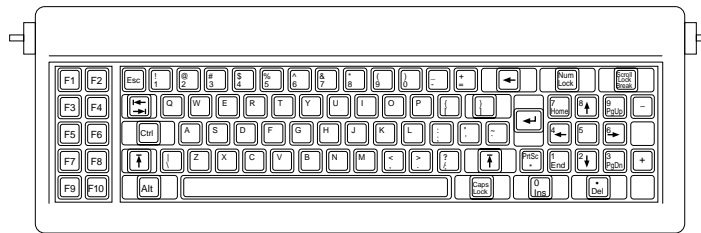

FIG. 9.1 PC and XT 83-key keyboard layout.
**83-Key PC and XT Keyboard.** When the original PC was first introduced, it had something that few other personal computers had at the time: an external detachable keyboard. Most other small personal computers of the time had the keyboard built in, like the Apple II. Although the external design was a good move on IBM's part, the keyboard design was not without its drawbacks. One of the most criticized components of the original 83-key keyboard is the awkward layout (see Figure 9.1). The Shift keys are small and in the wrong place on the left side. The Enter key is also too small. These oversights were especially irritating at the time because IBM had produced the Selectric typewriter, perceived as a standard for good keyboard layout.